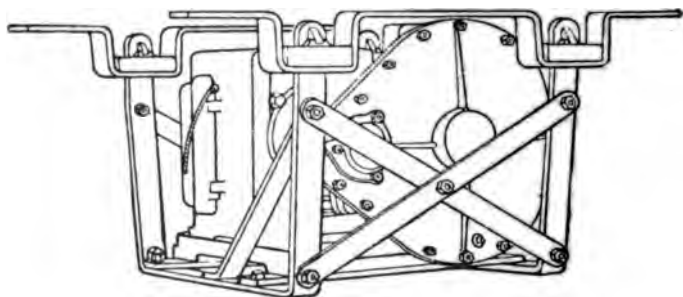

Fig. 525. Suspension Cradle of Air Compressor.
*Answer.* It is placed under the car, suspended from the sills by a cradle. (See Fig. 525).